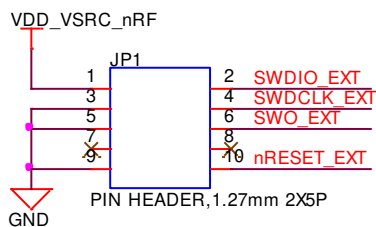

Figure 7: BL654PA development board schematic
**Note:** Reference on the BL654PA development board schematic (Figure 7) shows the DVK development schematic wiring only for the JTAG connector and the BL654PA (LC840PA) module JTAG pins.
JTAG is required because Nordic SDK application and the ProFLEX application can only be loaded using the JTAG (*smartBASIC* firmware can be loaded using JTAG as well as over the UART). We recommend that you use JTAG (2-wire SWD interface) to handle future LC840PA module firmware upgrades. You **must** wire out the JTAG (2-wire SWD interface) on your host design (see Figure 7, where the following four lines should be wired out – SWDIO, SWDCLK, GND and VCC). *smartBASIC* firmware upgrades can still be performed over the LC840PA UART interface, but this is slower than using the LC840PA JTAG (2-wire SWD interface) – (60 seconds using UART vs. 10 seconds when using JTAG).
Laird recommends you use JTAG (2-wire interface) to handle future LC840PA module firmware upgrades. You MUST wire out the JTAG (2-wire interface) on your host design (see Figure 7, where four lines should be wired out, namely SWDIO, SWDCLK, GND and VCC). Firmware upgrades can still be performed over the LC840PA UART interface, but this is slower (60 seconds using UART vs. 10 seconds when using JTAG) than using the LC840PA JTAG (2-wire interface).